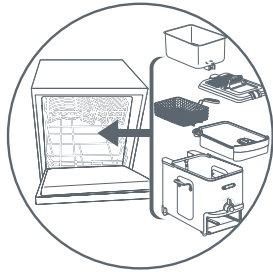

Fig. 2
- All the parts (except the control unit) are dishwasher safe – fig. 2.
- Clean the lid, the bowl, the housing, the frying basket – fig. 2 and the Oil box with soap and water or put them in the dishwasher. Clean the control unit and the heating element with a damp cloth. Dry thoroughly.